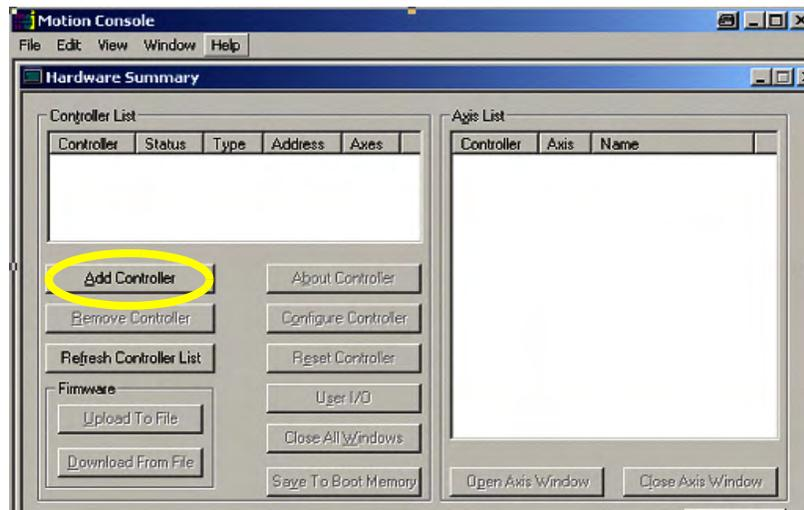

Figure 5-71—No controller in list box
- 3a) If your window shows no controller in the Controller List field (see *Figure 5-71*), click **Add Controller**.